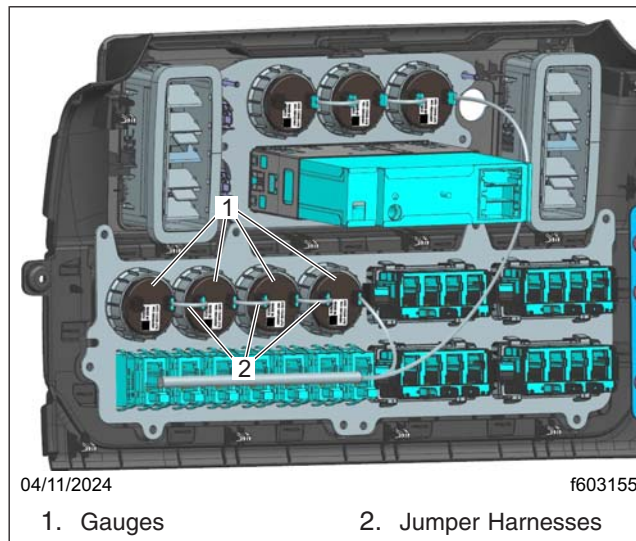

Fig. 17, Installation of the Gauge Jumper
17. To install the gauges AU004, AU005, AU006, or AU007, check if a spare jumper is attached to the adjacent gauge, and connect it to the gauge that is just installed. If the jumper is missing, install the jumper supplied between the adjacent gauge and the newly installed gauge. See Fig. 1 and Fig. 17.